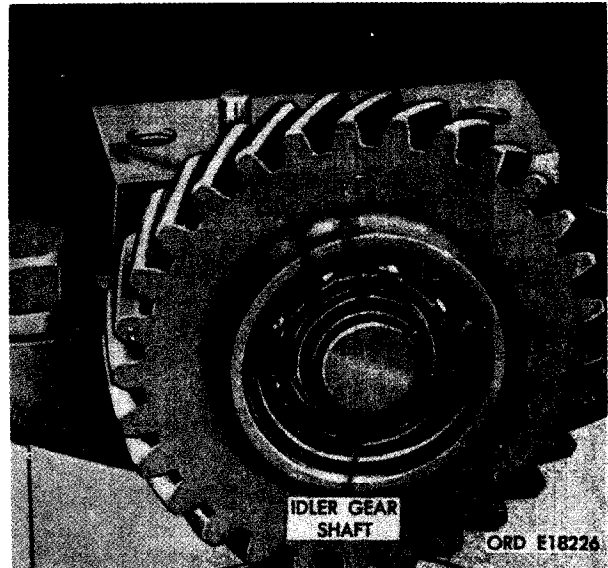

FIGURE 301. REMOVING OR INSTALLING OIL PUMP IDLER GEAR.
- (1) Figure 301. (A) Remove retaining ring from groove in idler gear shaft. (B) Remove thrust washer. (C) Remove idler gear and bearing.